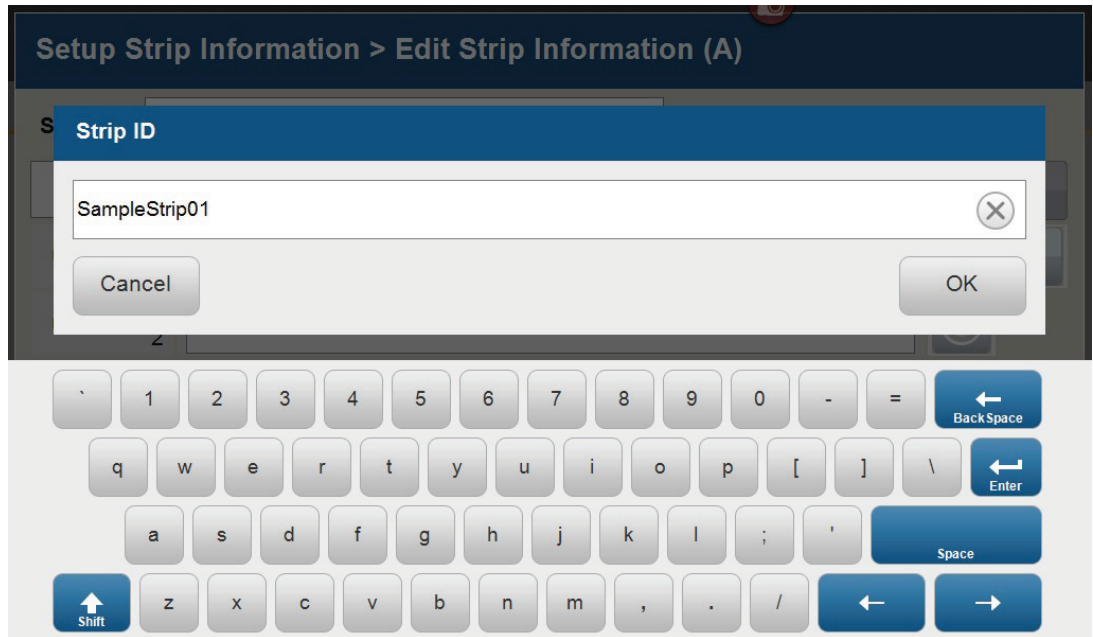

Figure 11. 'Set Strip ID' window.
3. The default Strip ID is date and time. It can be modified by selecting the Strip ID box. This opens the 'Set Strip ID' window and a keypad will become active on the touch screen (Figure 11). Alternatively, the Strip ID can be entered using a traditional keyboard if one is connected to the Spectrum Compact CE System. Enter the appropriate Strip ID, and then select **OK** to exit and return to the 'Edit Strip Information' screen.